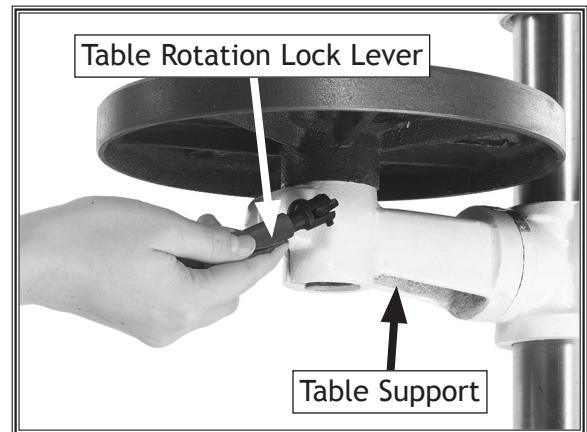
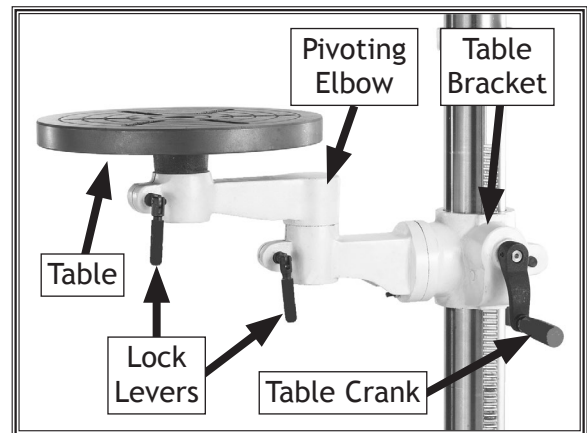

Figure 32. W1669 table components.
Figure 33. W1670 table components.
The Model W1669 table can be adjusted for height, angle, and location (see **Figure 32**). The W1670 table can also be adjusted for distance from column and rotation (see **Figure 33**).
1. (W1670 Only): Turn the locating pin nut (see **Figure 33**) in a clockwise direction. This will draw the locating pin out of the casting. Once loose, pull out the pin and nut, and set them in a safe place until needed.
1. Loosen the lock lever(s) located under the table (see **Figure 33**). Rotate the table the desired amount.
1. Loosen the lock lever located at the pivoting elbow of the table support (see **Figure 33**).